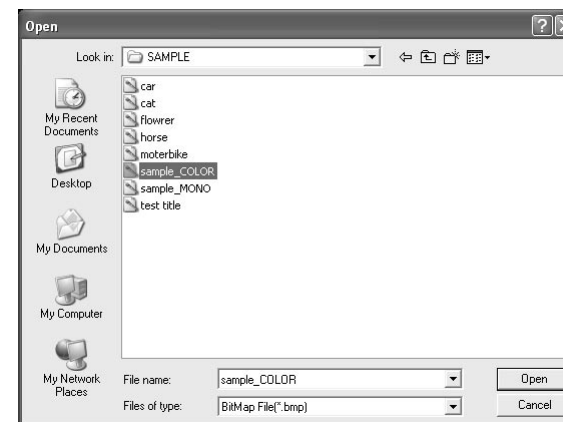

Fig.10 File selection dialogue box
- 3** When the "Open File" button is clicked, the file selection dialogue box shown in Fig.10 appears. Select the image file (BMP, JPG or JPEG) to be transferred, and click "OK".